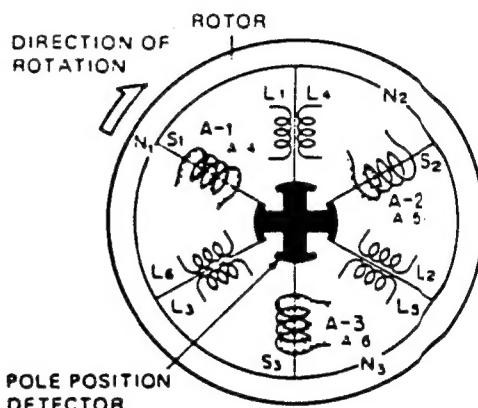

Fig. 1
3. Q_{109} in turn conducts and causes current to flow in the associated drive coil ($A-1$). The rotor moves in the direction shown by arrow in Fig. 1. The magnetic pole affixed to the rotor induces a voltage proportional to rotor movements, in the sensing coil ($A-4$).
Fig. 1 shows a simplified view of the drive and sense coils. With power applied and coupling between L_1 and L_4 high, Q_{109} causes current to flow through $A-1$. As a result, the rotor end of coil $A-1$ becomes a south pole (S_1) and attracts N_1 . The rotor moves in the direction shown by arrow. Coupling factor between L_2 and L_5 increases and operation of Q_{110} causes current to flow in coil $A-2$. Pole S_2 attracts pole N_2 and rotor rotation continues. In the same manner, S_3 attracts Pole N_3 . Continuation of this process causes the rotor to turn on a steady basis.